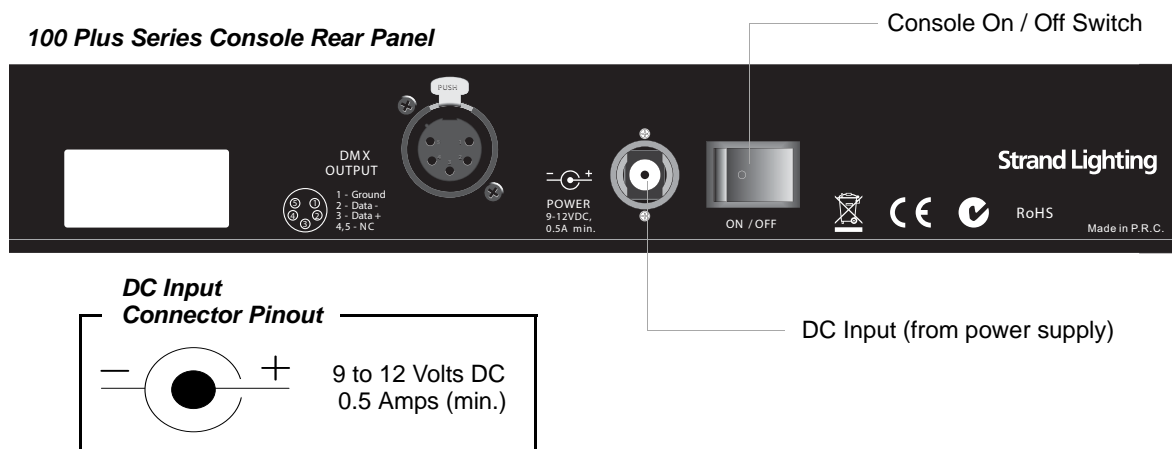

Figure 3: 100 Plus Series Control Console Power Connection
- Step 1. As shown in **Figure 3**, make sure unit's power switch is set to "Off"